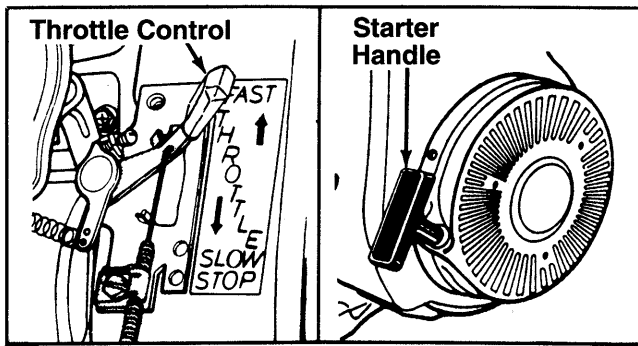

FIGURE 5.
1. Place the throttle control lever in FAST position. See figure 5.
3. Grasp starter handle (see figure 5) and pull rope out slowly until engine reaches start of compression cycle (rope will pull slightly harder at this point). Let the rope rewind slowly.